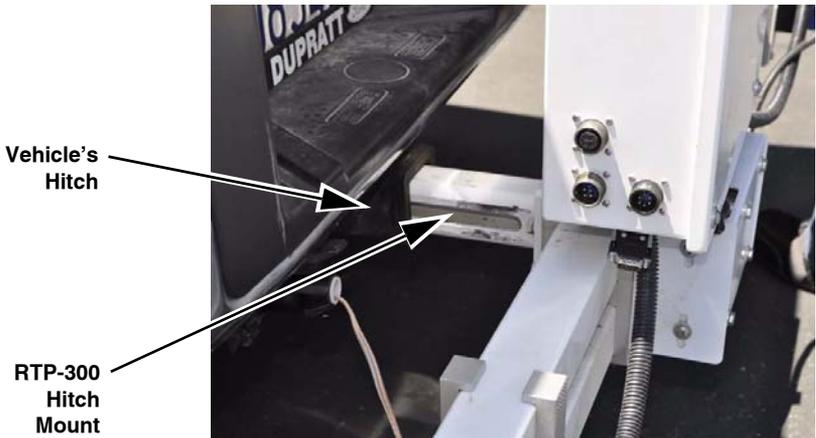

Figure 2-9. Install RTP-300 Assembly
1. Insert the RTP-300 assembly's hitch mount into the vehicle's hitch (Figure 2-9).